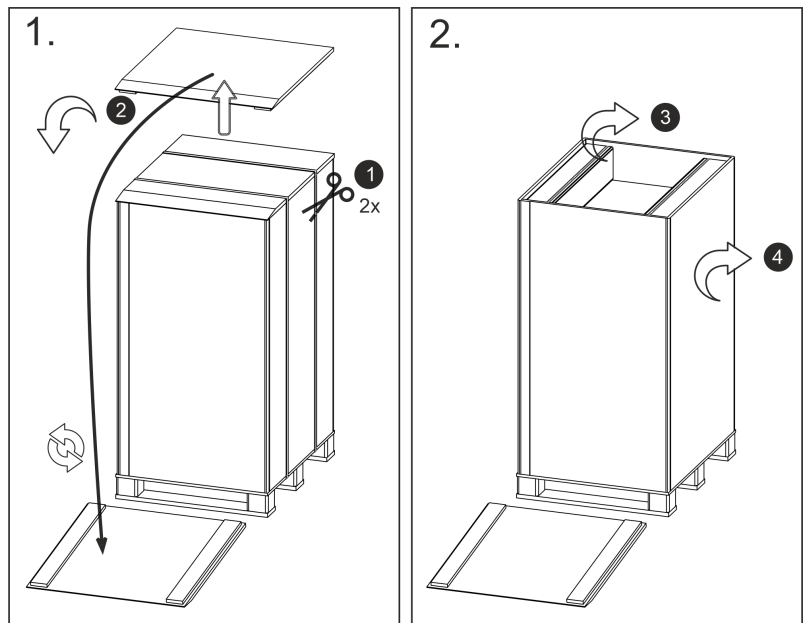

Fig. 2: Graphic of unpacking instructions for VC 5000
3. Fig. 2: Remove the two spacer blocks ③ from the box. Remove the box ④.